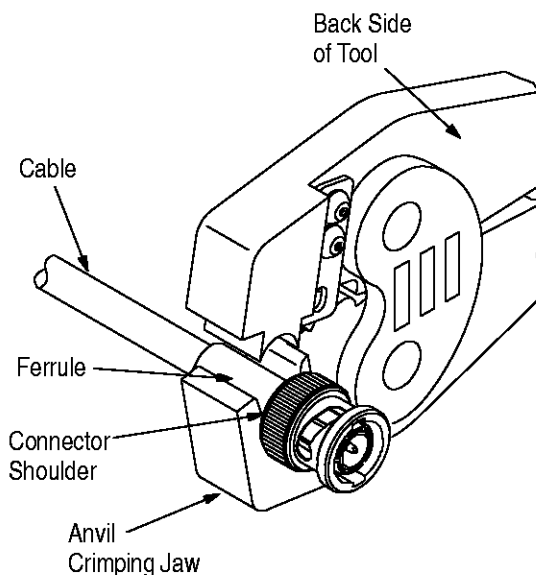

Figure 4
3. Position ferrule in crimping chamber on the anvil crimping jaw so that the connector shoulder butts against jaw, as shown in Figure 4.